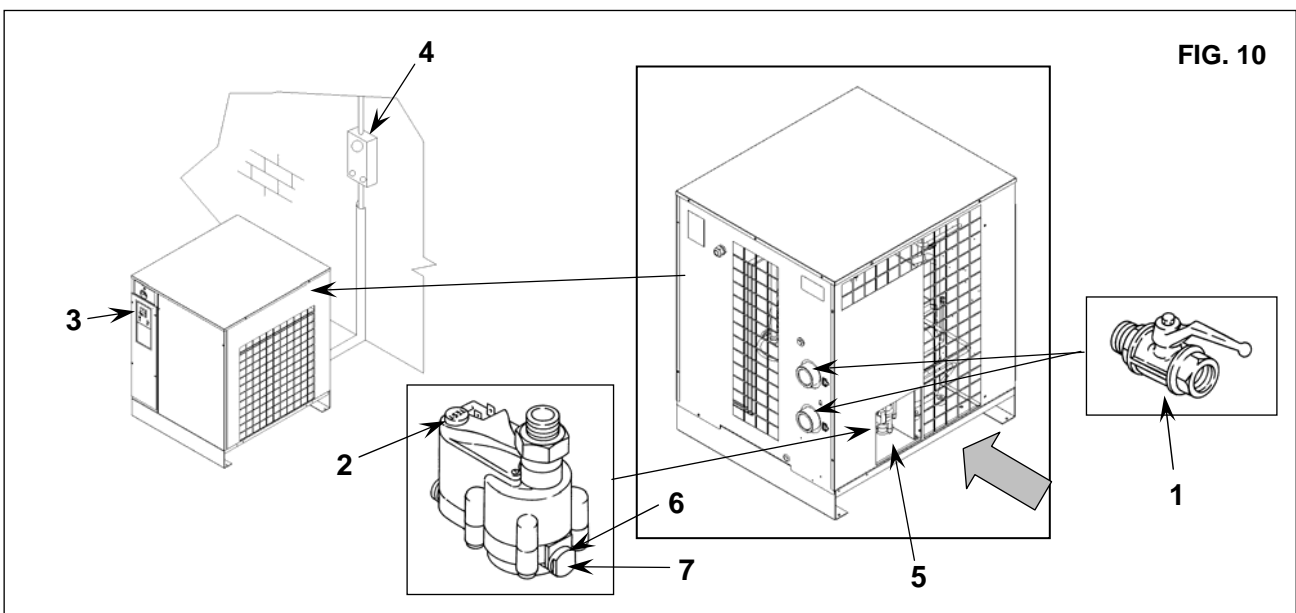

FIG. 10
15.2 CLEANING OF THE AUTOMATIC CONDENSATE DISCHARGER FILTER (Fig. 10)
- Close the cock Ref. 1 Fig. 10
- Release the pressure in the dryer by pressing the condensate drain "TEST" pushbutton located on the steam trap Ref. 2 Fig. 10.
- Switch off the machine. Turn the switch in position STOP Ref. 3 Fig. 10
- Turn on the supply automatic differential switch Ref. 4 Fig. 10
15.3 CLEANING THE CONDENSER (Fig. 10)
- To use the hole Ref. 5 Fig. 10
- Clean the condenser fins Ref. 1 with compressed air (Fig. 10) **DO NOT USE WATER OR SOLVENTS**
- Close the panels Ref. 5 Fig. 10